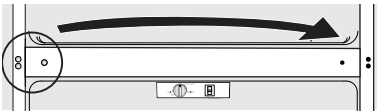

Figure 3
8. Remove the 3 pan head screws at the center of the cabinet (Figure 3) and install them on the opposite side of the cabinet.